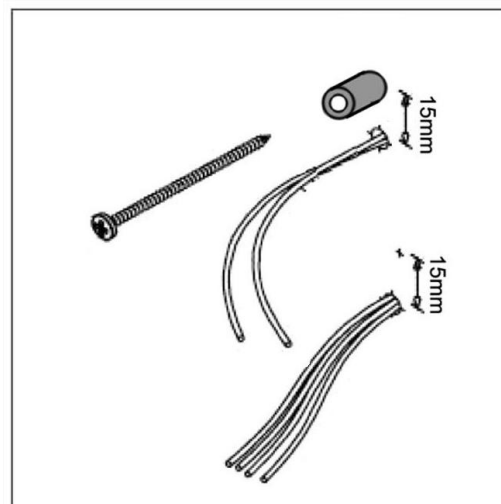

Fig 3.0
- Fix the mounting blocks at the cable end first. see Fig 3.0 (prev page.)